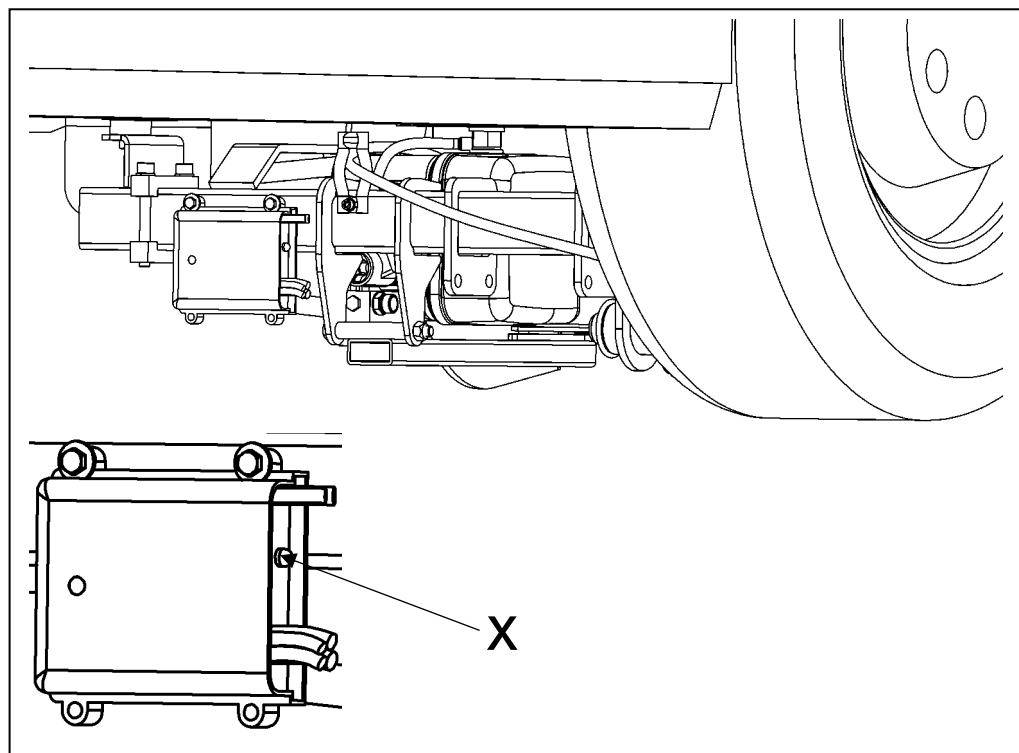

Fig. 86
*If a control element on the handheld control (toggle switch, remote control pushbutton, or foot switch) is actuated, the control LED flashes (see Fig. 86).